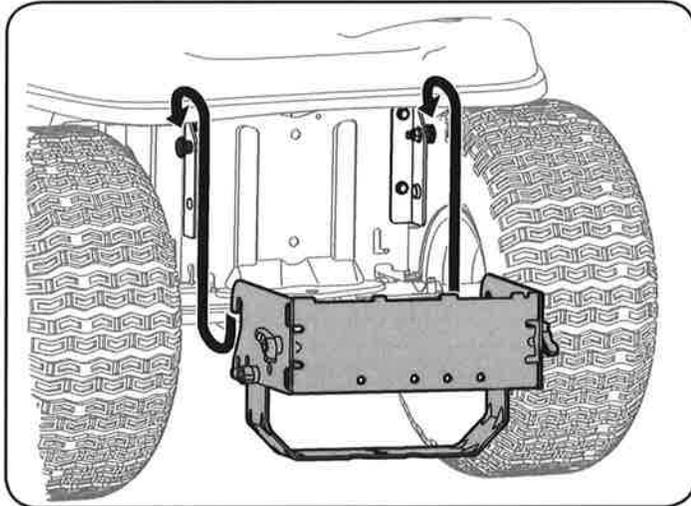

Figure 5
1. Place the hooked ends of the mounting assembly over the shoulder bolts, as in Figure 5, on the mounting brackets previously installed on the tractor and line up the hitch support bracket center hole with the hole on the tractor's hitch.